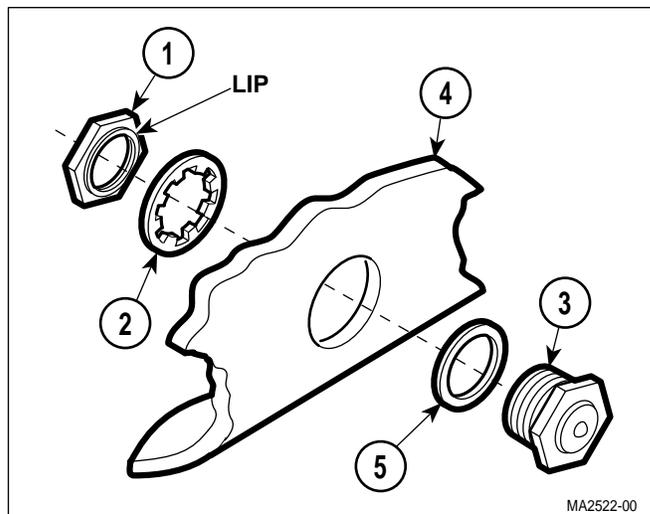

Figure 4-12. Diaphragm Cup Removal / Installation
- (1) Remove cover assembly (Refer to para 4.2).
- (2) Remove wire rack and trays (Refer to para 4.20).
- (3) Remove temperature regulator relay (Refer to para 4.9).
- (4) Remove nut (1, Figure 4-12), lockwasher (2), and diaphragm cup (3) from chamber wall (4).
- (5) Remove gasket (5) from diaphragm cup (3).